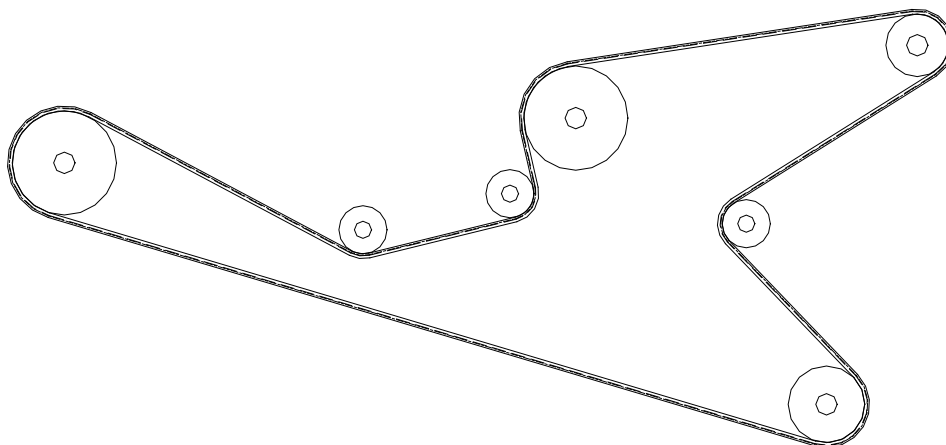

Fig. 11
7. Reassembly is a reversal of the above. Note the belt route, shown in Fig. 11 below.